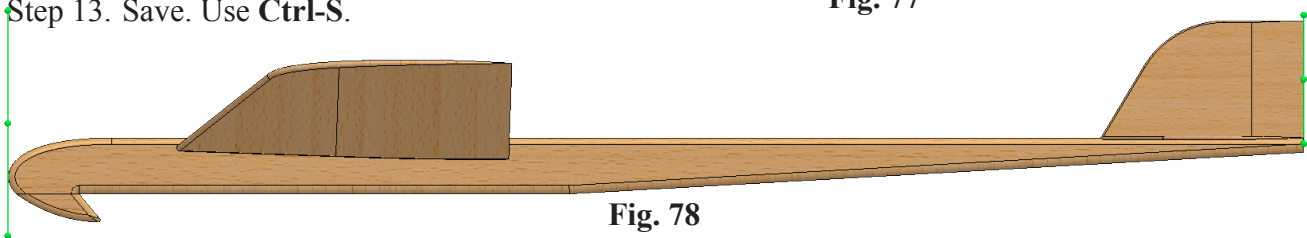

Fig. 78
Step 11. Click **Distance**  in Mate pop-up, **Fig. 77**. Set **distance to 300** and press ENTER. The trailing edge of V Stab should align with rear edge of Fuselage, **Fig. 78**. If positioned in opposite direction, click **Flip Dimension**  in the Mate pop-up. Click Add/Finish Mate  to add Distance mate.